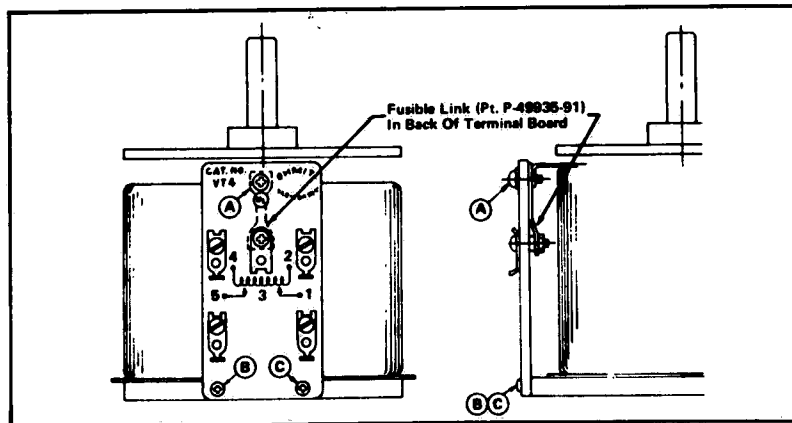

Figure 4-2. REPLACING FUSIBLE LINK ON VARIABLE INTENSITY CONTROL - Units Shipped Before 5/66.
5. Install insulator, switch and spacer in control housing as shown in Figure 4-2 using existing switch plate and screws provided with conversion kit.
4. Refer to Figure 4-2; check for continuity between screws (A) and (3) as shown. If continuity does not exist, replace fusible link as follows:
c. Remove and replace fusible link within the short black insulating sleeve between screw (A) and terminal (3).